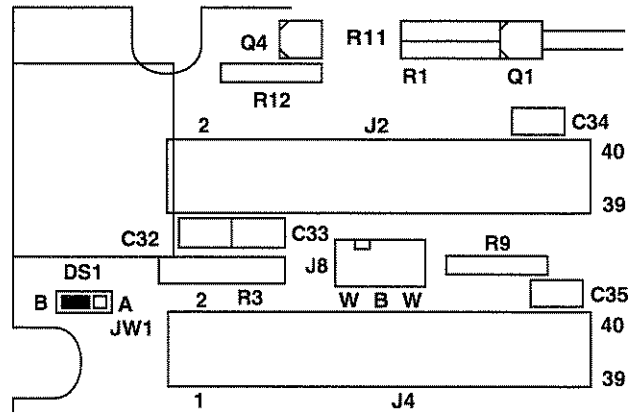

Figure 1-3
- Locate PC board #40442 immediately behind the front panel. The selectable ground jumper is located at the upper left corner on the component side of the board (see Figure 1-3).
5. Locate PC board #40442 immediately behind the front panel. The selectable ground jumper is located at the upper left corner on the component side of the board (see Figure 1-3).